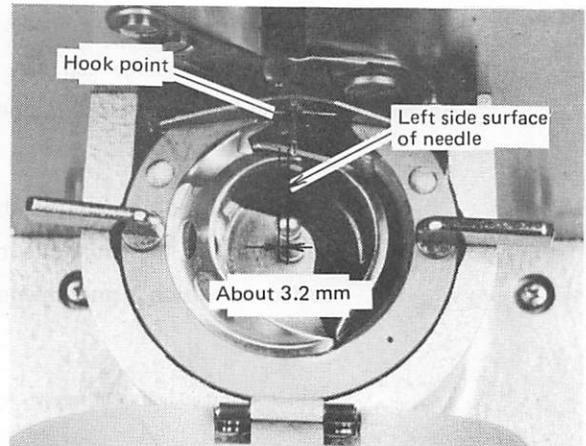

Fig. 10.5
- (3) The same result can be obtained when the hook point is positioned about 3.2 mm apart from the left side surface of needle when the hook point is located at the left extremity, as shown in Fig. 10.5.